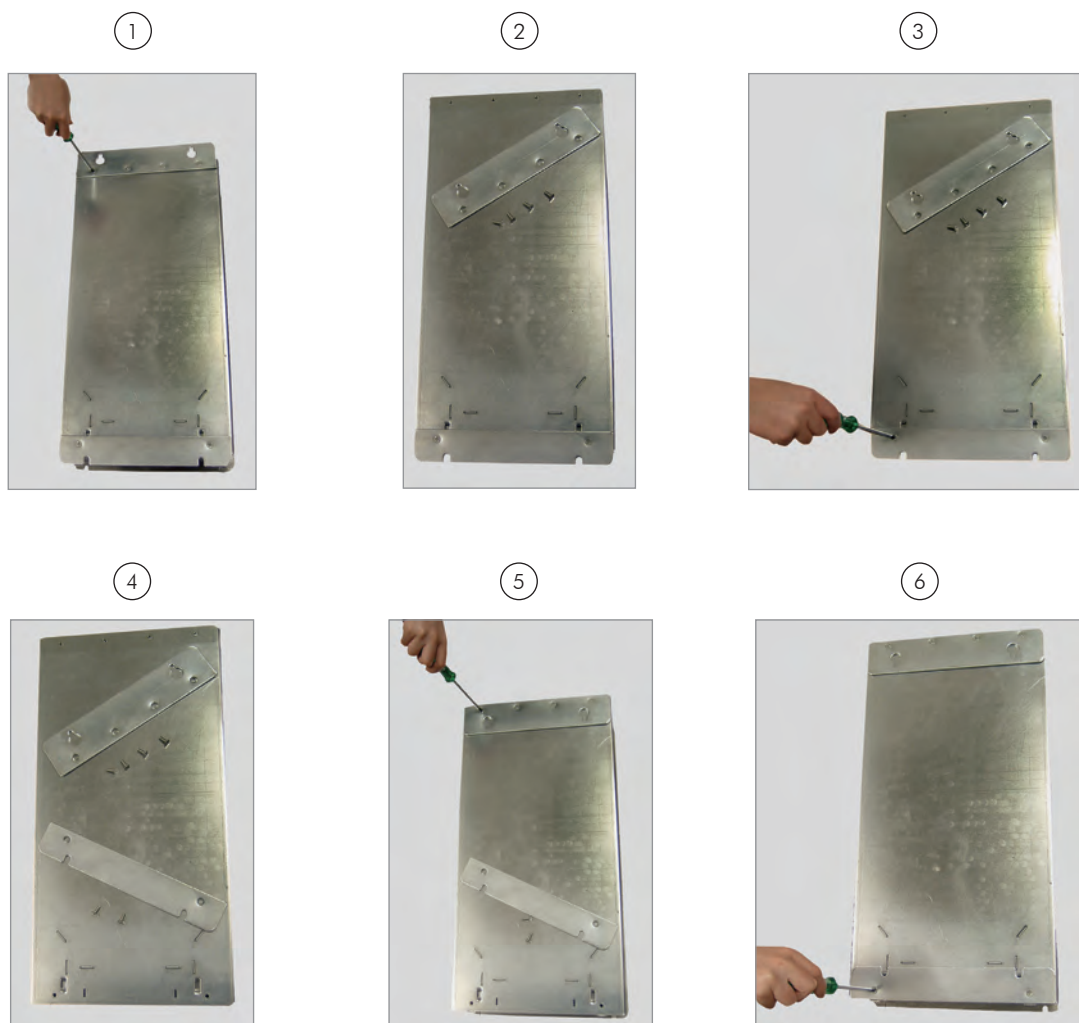
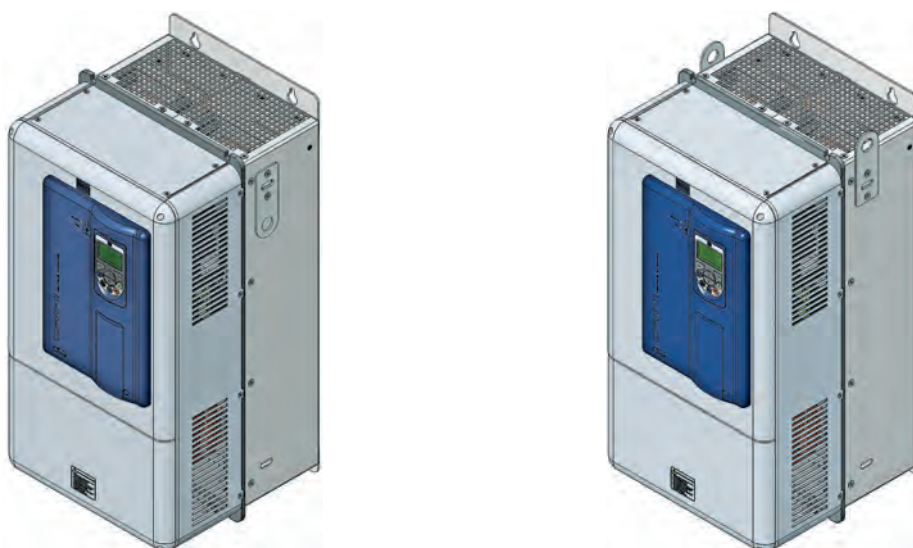

Figure 3.6 - Repositioning the mounting supports - frame size E
Figure 3.7 - Installation of the inverter hoisting eyes frame size E
- ☑ The inverter securing supports (position **I** of Figure 2.5 on page 2-9) and the hoisting eyes (position **J** of Figure 2.5 on page 2-9) must be removed and repositioned according to the Figure 3.6 on page 3-10 and Figure 3.7 on page 3-10.
Two hoisting eyes for the inverter lifting, which are mounted at the inverter sides (rear part), are supplied. By inverting their position, as shown in Figure 3.7 on page 3-10, two points for hoisting the inverter, which are very useful during the mechanical installation of the inverter, are obtained.